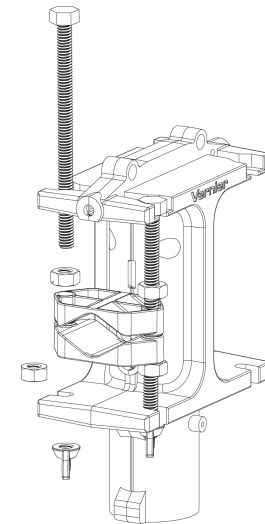

Figure 4
12. Secure the second bolt with another wing nut, repeating what was done for the first bolt (see Figure 4).